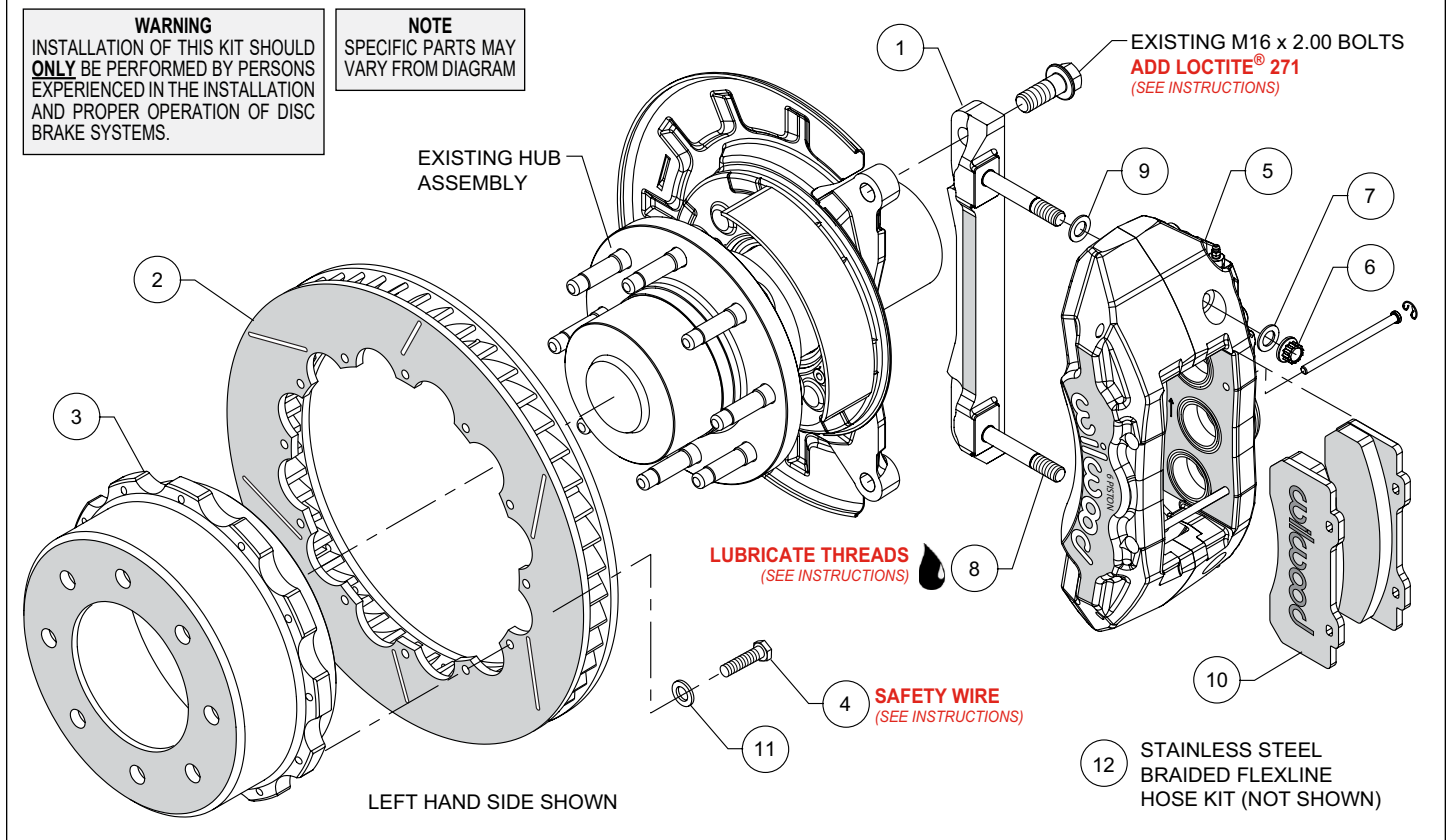
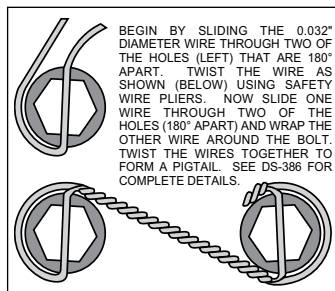

Figure 1. Typical Installation Configuration
Figure 3. Safety Wire Diagram
NOTE: Numbers in parenthesis refer to the parts list and Figure 1 on the preceding pages.
- The caliper mount bracket (1) should initially be installed with clean, dry threads on the mounting bolts. Orient the bracket as shown in Figure 1 and Photo 1, and install using saved OE bolts. Temporarily tighten the mounting bolts. **NOTE:** *The bracket must fit squarely against the mount bosses on the upright.* Inspect for interference from casting irregularities, machining ridges, burrs, etc. Remove the mounting bolts one at a time and apply red *Loctite*® 271 to the threads and torque to manufacturer's specifications.
- Orient the rotor (2) and the hat (3) as shown in Figure 1 and Photo 2. Attach rotor to hat using bolts (4) and washers (11). Torque bolts to 25 ft-lb using a criss-cross pattern. The bolts must be safety wired using standard 0.032 inch diameter stainless steel safety wire as shown in Figure 3. Please refer to Wilwood's data sheet DS-386 (available at www.wilwood.com/Pdf/DataSheets/ds386.pdf) for complete safety wire installation instructions.
- NOTE:** *This kit contains distinct right and left hand calipers that must be mounted in a specific direction, as described below.* Lubricate the caliper mounting studs (8) with lightweight oil. Initially place one .032" thick shim (9) on each stud as shown in Figure 1 and Photo 3. Mount the caliper (5) onto the bracket (1) using lock nuts (6) and washers (7), Figure 1. Ensure that the caliper is mounted so that the largest pistons are at the rotor exit end of the caliper, in relation to the direction of rotor rotation. Temporarily tighten the lock nuts.